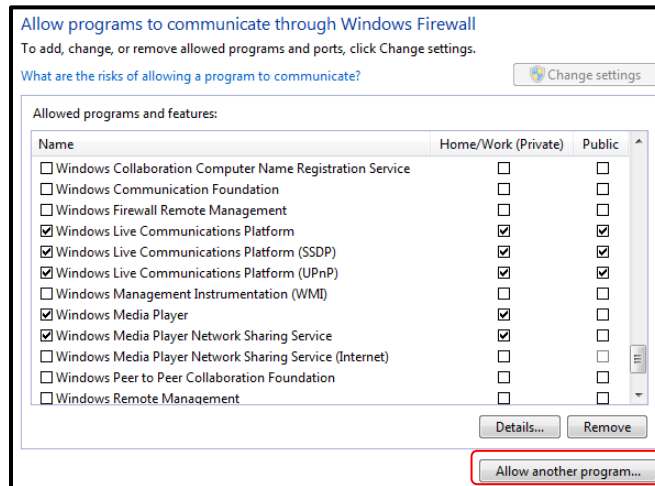

Figure 87 - Adding another program to allowed list
- Click the “Allow another program...” button. Refer to Figure 87.